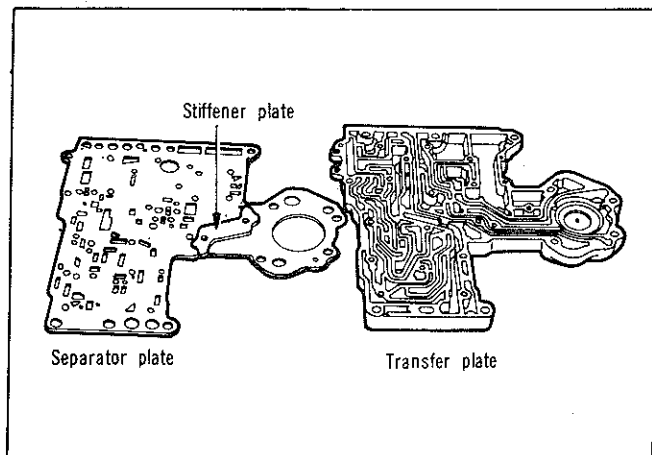
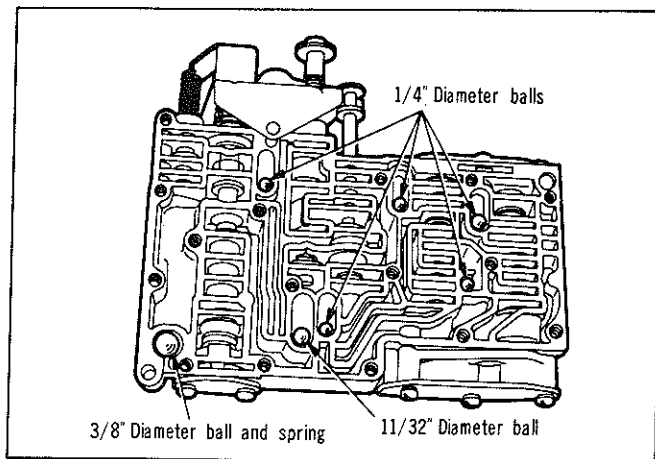

Fig. 36—Transfer and separator plate
Fig. 37—Steel ball locations
(6) Remove transfer plate retaining screws and lift off transfer plate and separator plate assembly.
(7) Remove screws from stiffener and separator plate and separate parts for cleaning (Fig. 36).
(8) Remove rear clutch ball check valve from transfer plate and regulator valve screen from separator plate for cleaning.
(9) Remove the balls and springs from valve body shown in (Fig. 37).
- (1) Install the balls and springs in valve body as shown in (Fig. 37).
- (2) Install rear clutch ball check valve in transfer plate and regulator valve screen in separator plate (Fig. 36).
- (3) Install screws in stiffener and separator plate (Fig. 36).
- (4) Place transfer plate assembly on valve body. Be careful to align filter screen and the spring loaded ball as the 17 shorter screws are installed finger tight (3 longer screws are for oil filter).
- (5) Starting at the centre and working outward, tighten screws to specification.
- (6) Slide torque converter and line pressure valves and springs into their bores.
- (7) Install pressure adjusting screw and bracket assembly on the springs and fasten with one screw for now. Use screw which goes into side of valve body. This screw is to be tightened first, after starting the top and bottom screws.